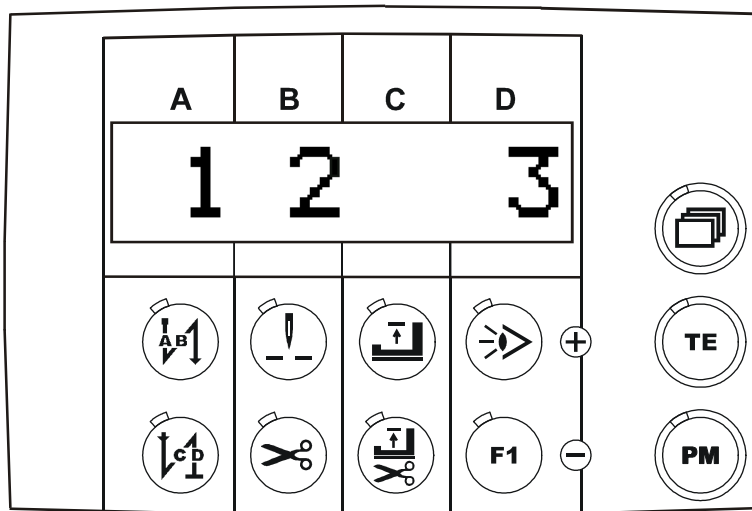

Fig. 9.13
- Keep these **two keys** pressed until "**1 2 3**" (**Fig. 9.13**) appears on the display, then release the keys.